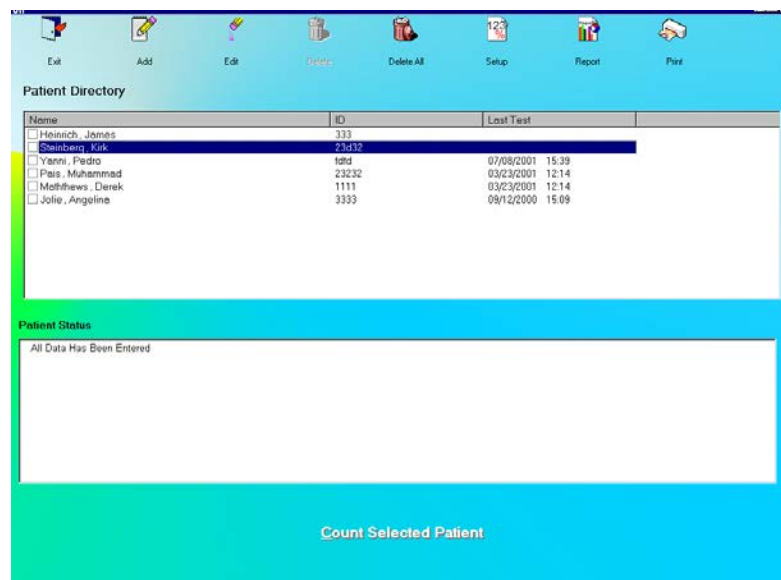
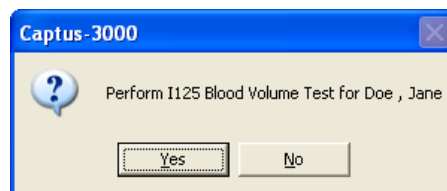

Figure 10-31
Figure 10-38
- To select (highlight) a patient to be edited, use the ↑ ↓ keys or *Page Up* and *Page Down* keys to move up or down in the patient list. If the list is long, the scroll bar is also available. To reach a particular patient, press the first letter of the patient name. Press the ↓ key if necessary, to go further down (Figure 10-31).
3. Click the **Start Procedure** button or press *Alt+S* to begin the test. Figure 10-38 will appear confirming the selected patient. To cancel the test or if the incorrect patient was selected, click the **No** button to return to Figure 10-31, otherwise click **Yes** to continue.